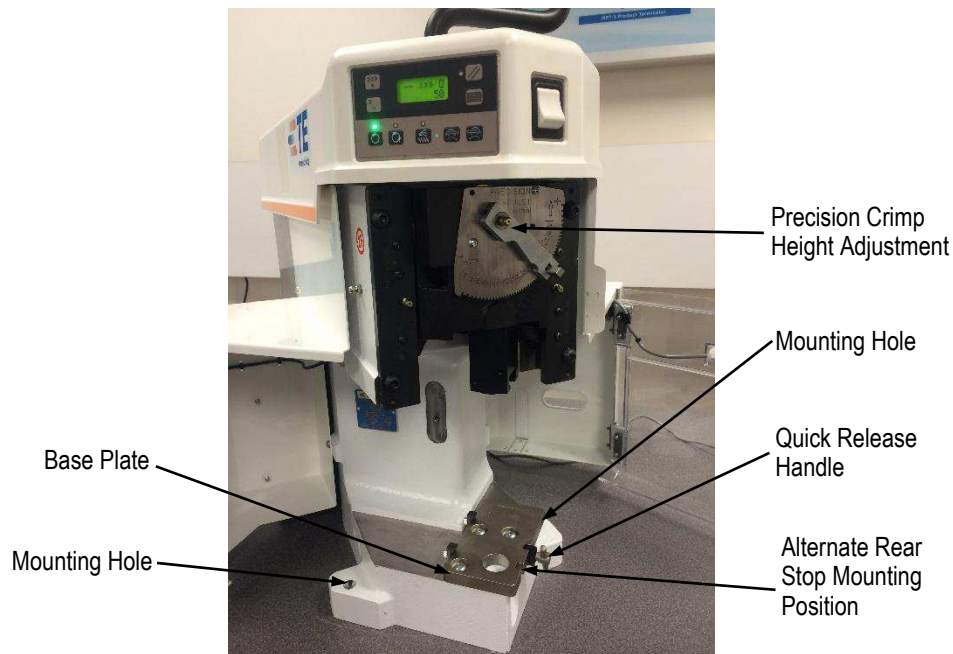

Figure 9
3. The **base plate** provides the mounting surface on which the applicator is installed. The quick-release latching feature permits fast, easy installation and removal of the applicator. See Figure 9.
4. The **crimp height adjustment group** uses an eccentric located in the ram linkage, along with detented stops in the mechanism to adjust the crimp height. Indexing the mechanism in either direction will change the crimp height in increments of approximately 0.01 mm [.0004 in.] per step. Refer to Figure 9 for the Precision Crimp Height Adjustment Mechanism.
*Machines should be securely bolted to the bench using the machine mounting holes shown in Figure 9. Hardware is customer supplied. Machines should not extend beyond the front of the bench.*
1. Loosen the quick-release T-handle (see Figure 9) and slide the applicator base clamp down.
*When using Applicator 567200-2 (originally intended for use with AMP-O-ELECTRIC Model “K” terminating machine), loosen the quick-release T-handle, slide down the applicator base clamp, and remove the rear stop located on the left side of the base plate. Install the rear stop (PN 354561-1), supplied with the air feed kit, at the alternate mounting position on the base plate. See Figure 9.*